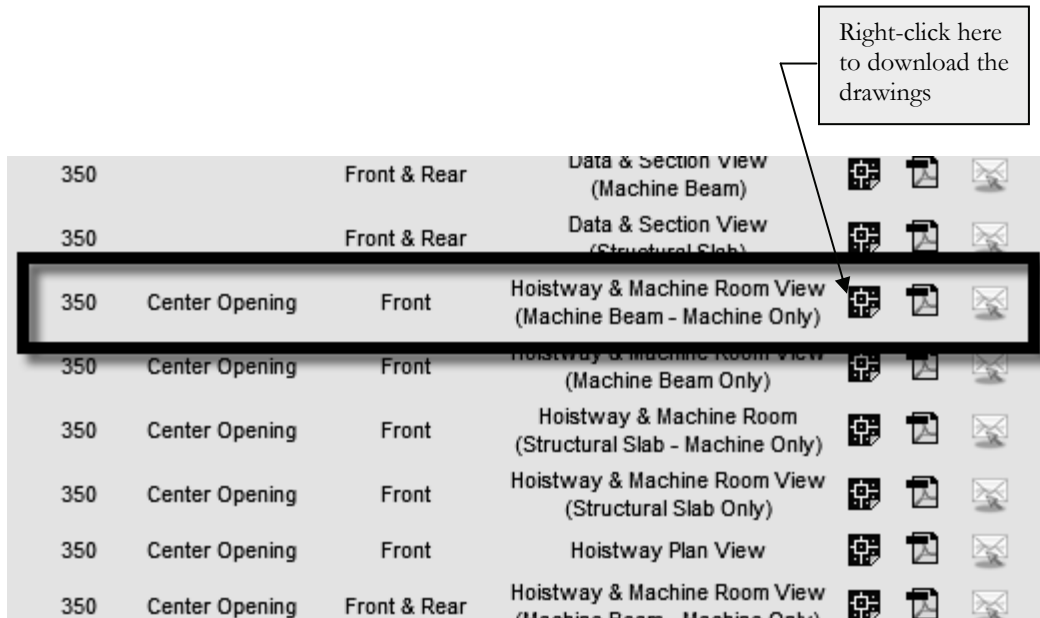

FIGURE 4-3.3 Elevator manufacturer’s website
- Right-click the DWG icon next to **350 - Center Opening - Front - Hoistway & Machine Room View** as shown in Figure 4-3.3.